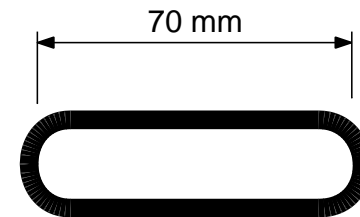

Figure 14: loop for yoke to drawpole strap (R6 steel bar).
15) Cut another piece of scrap tyre rubber about 400 mm long and 70 mm wide. Make a hole about 15 mm diameter about 40 mm from each end. Make a loop of 6 mm diameter steel reinforcing bar about 70 mm long as shown in Figure 14 that will just go over two thicknesses of the rubber strip.